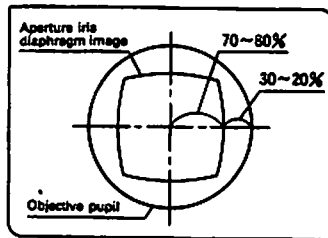

Fig. 53
(Fig. 53)
- Since the contrast of microscope specimens is ordinarily low, setting the condenser aperture iris diaphragm to 70-80% of the N.A. of the objective in use is usually recommended. When necessary, adjust the ratio by removing the eyepiece and looking into the eyepiece sleeve while adjusting the aperture iris diaphragm ring ① until the image shown in Fig. 53 is seen.